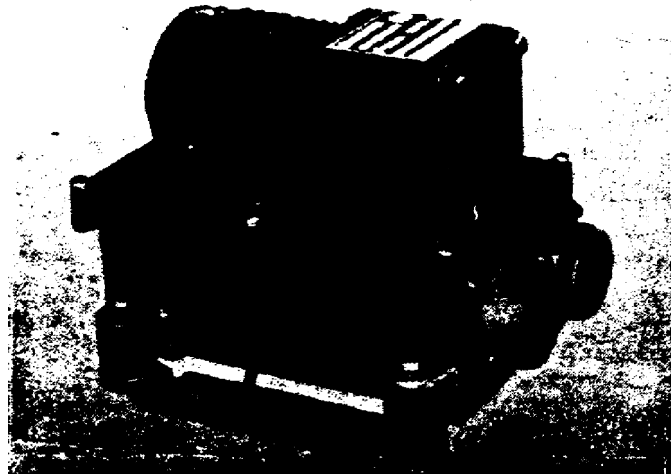

Figure 6. Carbon pile regulator.
3. CARBON PILE REGULATOR. This regulator consists primarily of a voltage regulator assembly, adjustable resistor assembly, load relay assembly, and capacitor assembly (fig 6 and 7).